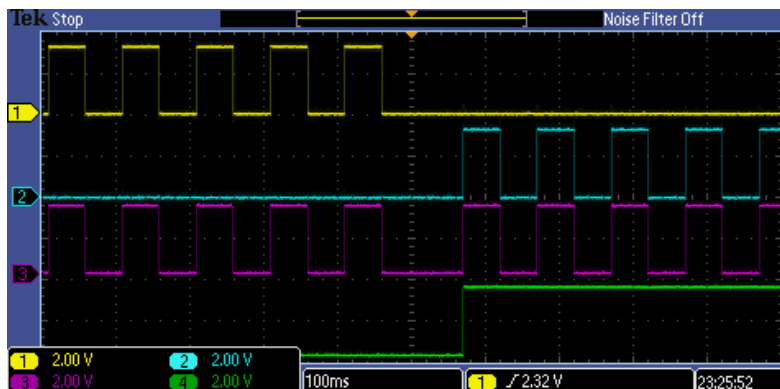
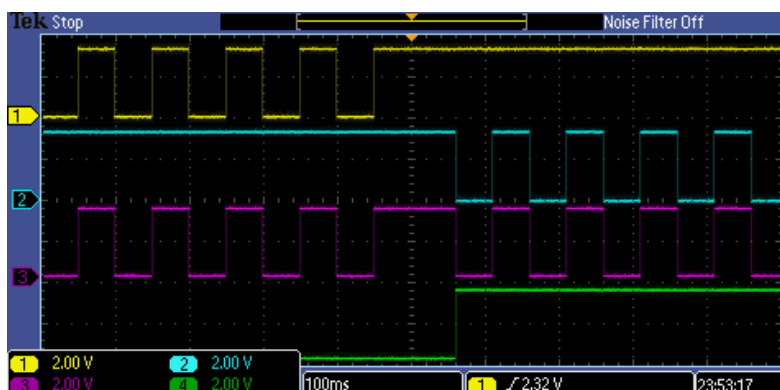

Figure 8. Active-High External Logic Interfacing Results
Figure 9. Active-Low External Logic Interfacing Results
Figure 8 and Figure 9 show scope outputs of the External Logic Interfacing method for active-high and active-low signals, respectively. In both figures, signal 1 is QEPA (CW), signal 2 is QEPB (CCW), signal 3 is the generated clock signal, and signal 4 is the generated direction signal. The verification procedure did not make use of index or strobe signals taken as inputs for the eQEP module.